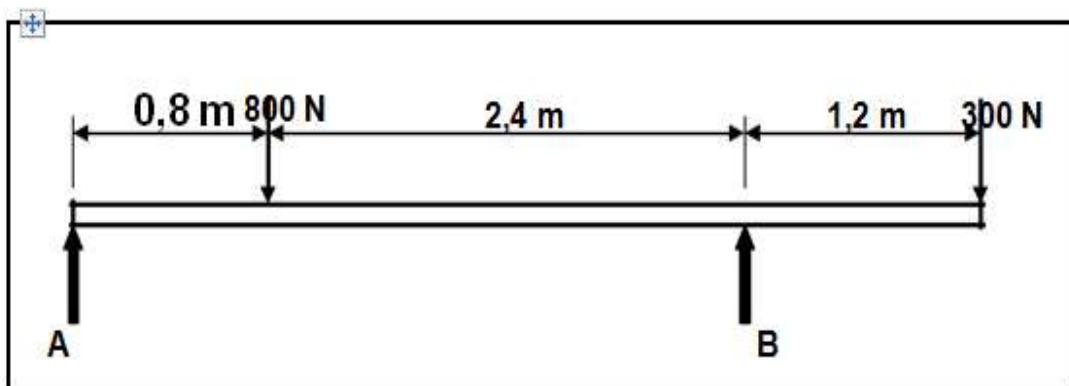

FIGURE 6.1
6.1 The diagram in FIGURE 6.1 below shows a beam supported by two vertical supports, A and B. Two vertical point loads of 800 N and 300 N are exerted onto the beam. Calculate the magnitude of the reactions in supports A and B.